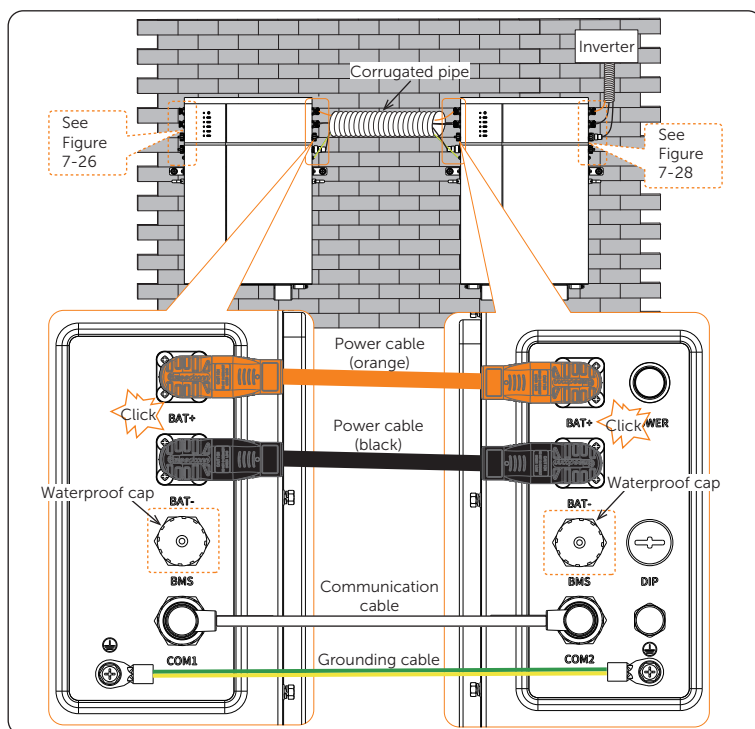

Figure 7-27 Cable connection of two adjacent battery pack
- Make sure that power cables and communication cable are wired correctly, as shown in Figure 7-27. Failing to do so may cause severe damage to your battery pack.